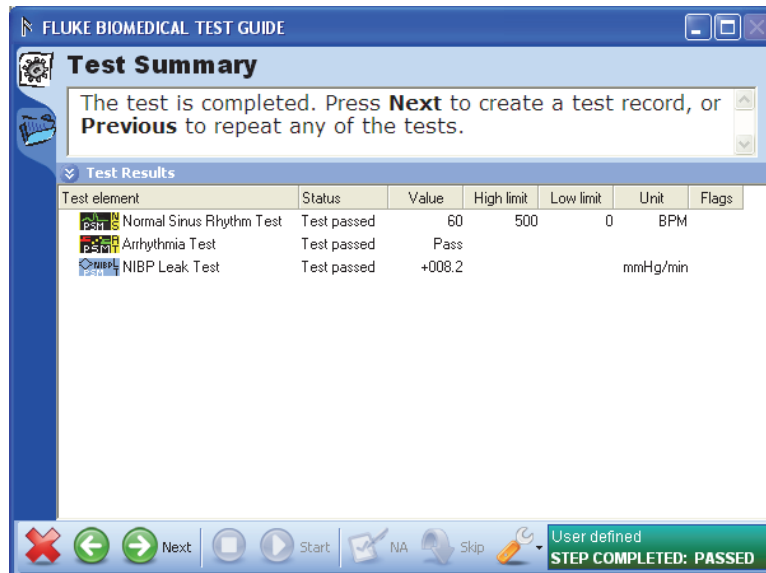

Figure 3-6. Test Summary Window
13. Click  to show the test summary window shown in Figure 3-6.